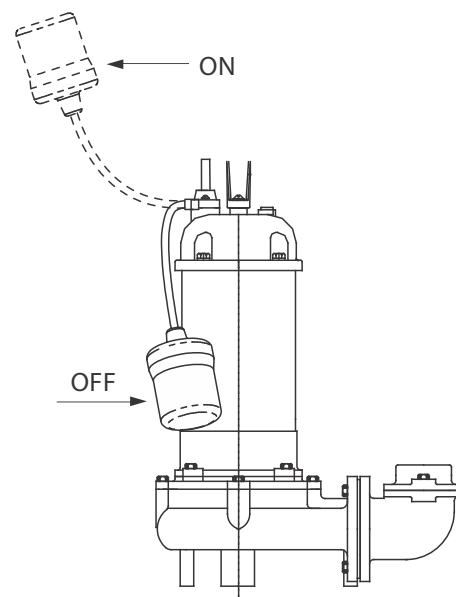

Figure 2
5. To avoid dry operation, install the floats as shown in Figure 2. The pump may not start if a floats switch touches the wall of the water tank or the piping. Install the floats so that this will not happen.